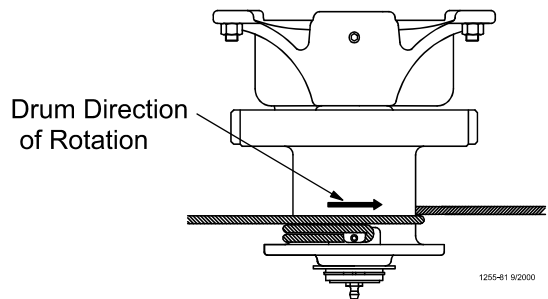

Figure 12. Power Winch Drum Rotation
- Turn the winch drum one full revolution. Guide the cable against the flange at the bottom of the winch drum. The cable must not wrap over itself on the drum, but should be wrapped as close as possible to each previous wrap. See **Figure 12**.